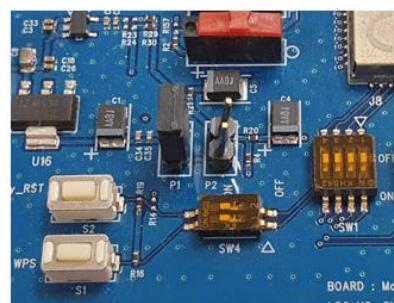

Figure 51: Setup DA16200 EVB Jumper
2. Open the two jumpers (P2) of the power line on the DA16200 EVB as shown in Figure 51.